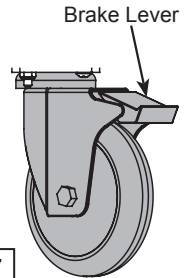

Figure 7
- To lock the wheel direction, align each wheel with the cart width and depress the brake lever. **Figure 7.** (Each wheel can be locked at 180° intervals)